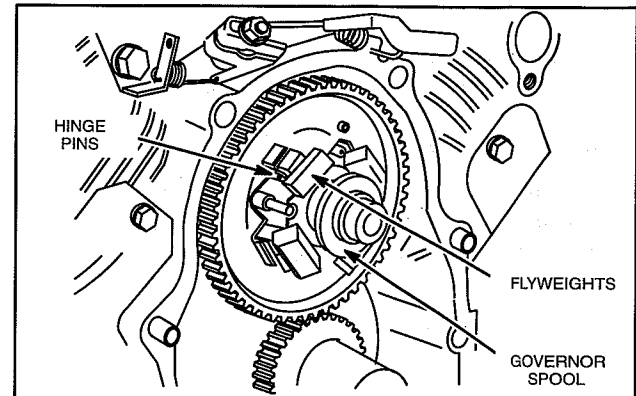

Fig. 9 – Check Governor
1. Governor spool must move freely on PTO journal of camshaft, Fig. 9.